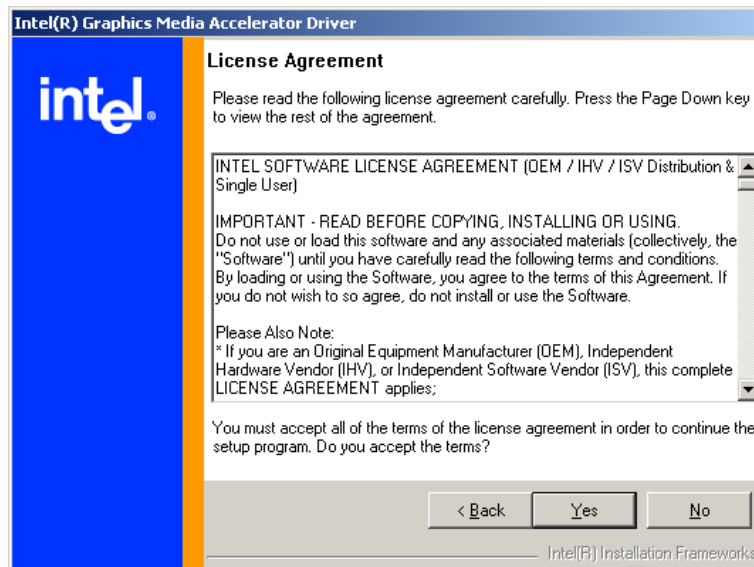

Figure 7-15: Intel® Graphics Media Accelerator Driver License Agreement
Step 11: Click **NEXT** and a license agreement appears (**Figure 7-15**).